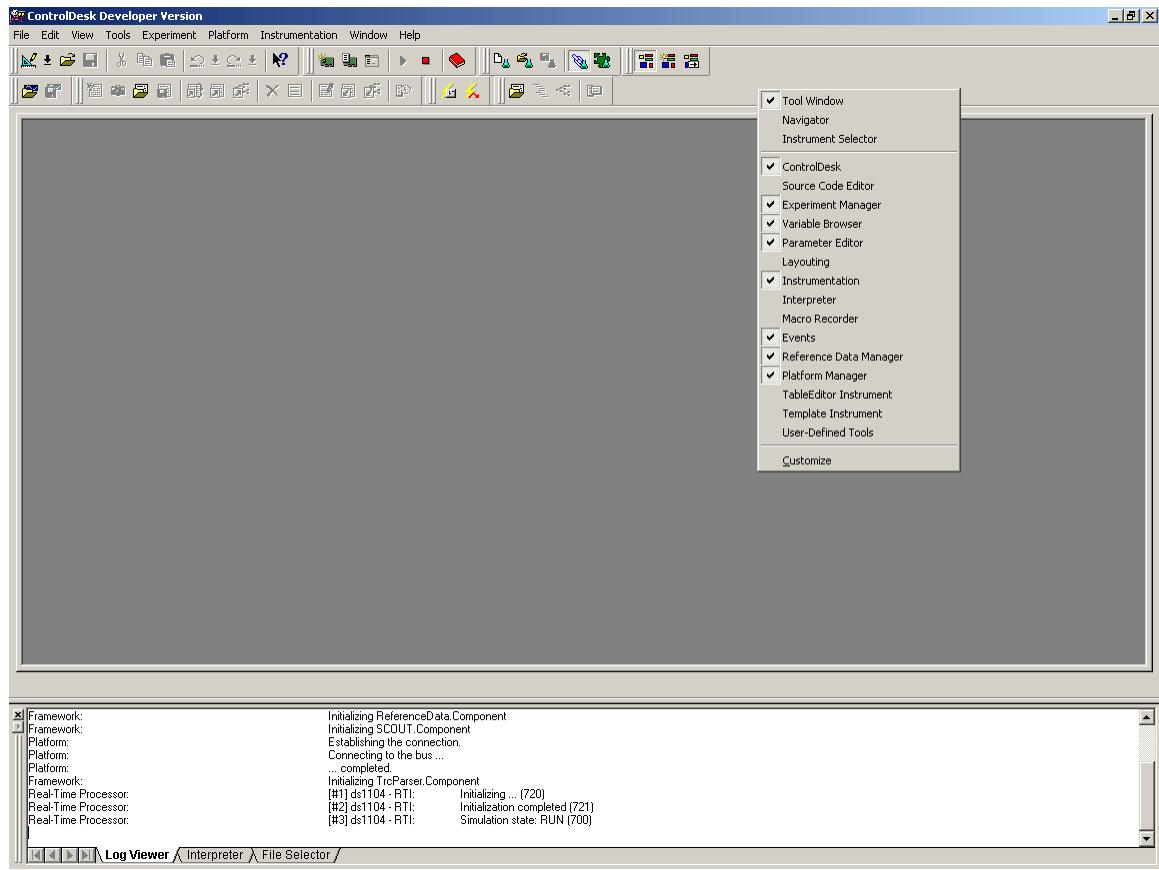

Figure 2.7: Control Desk Screen
- Start ControlDesk and select only the toolbars checked as shown in Fig. 2.7. The Tool Window is displayed at the bottom of Control Desk screen as shown in Fig. 2.7. The Tabs display the tool currently used. In the figure only three of the working tools are available: *Log Viewer*, *Interpreter* and *File Selector*.